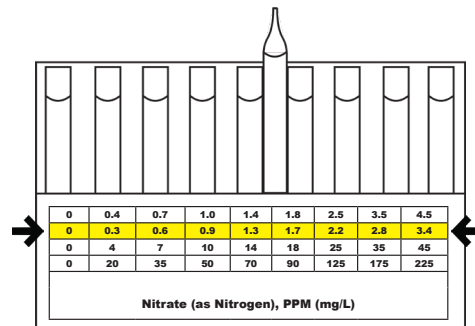

Figure 4
8. Use the 0 - 3.4 concentration scale on the comparator label. Obtain a test result by placing the ampoule between the color standards until the best color match is found (fig. 4).